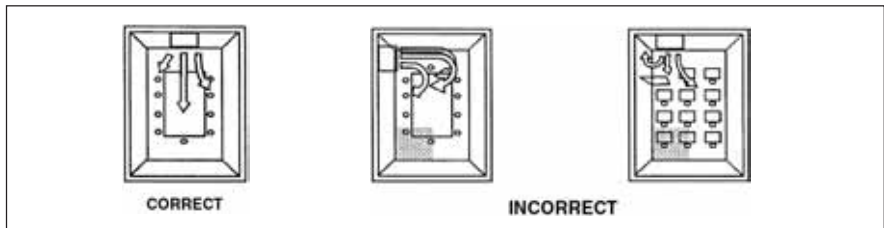

Fig. 7 - Position of the indoor unit in the environment
- b) The unit's position must permit the uniform circulation of air throughout the entire environment (Fig. 7).